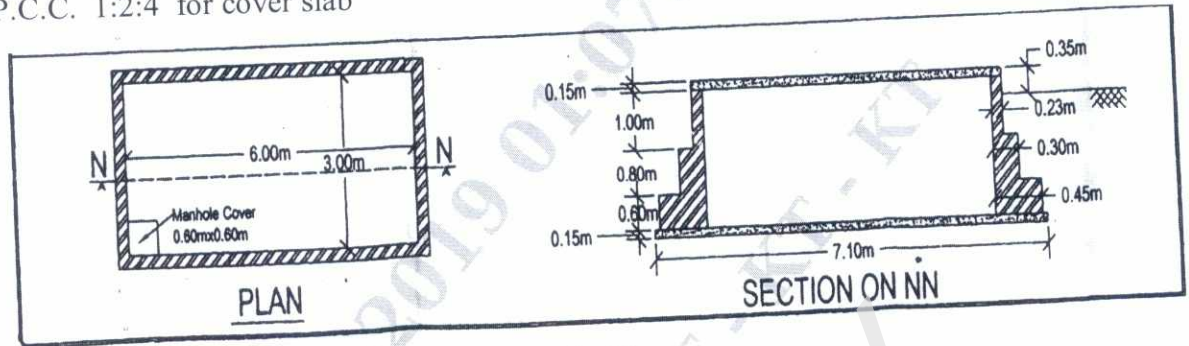

Fig.Q2
- 2 The details of a septic tank are given in Fig.Q2. Find the quantities of the following items.